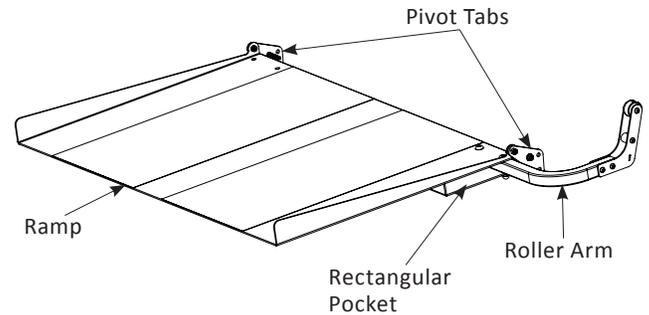

Figure 4-7
2. Assemble ramp roller arm into the rectangular pocket of the ramp with the provided hardware. *See Figure 4-7.*